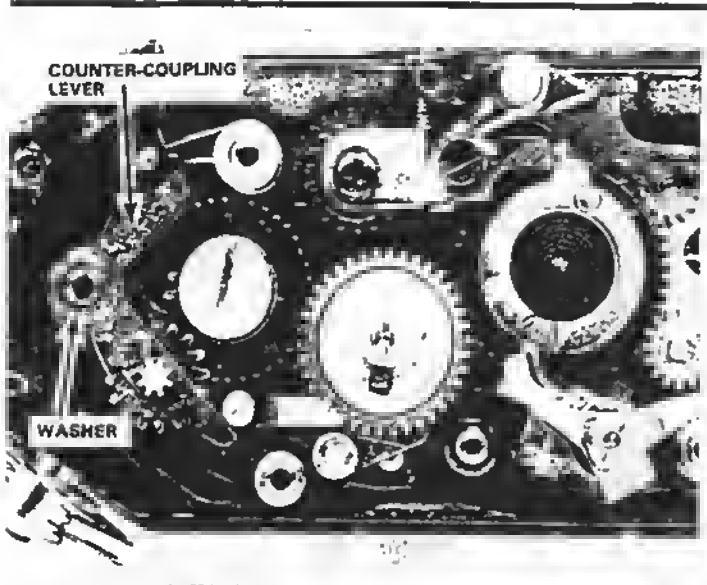

Figure 139
**REASSEMBLY:** Place the counter-coupling lever over the shoulder post, Fig. 139. Seat the washer on top of the counter-coupling lever, and place the counter-dial ratchet pawl on top of the washer.